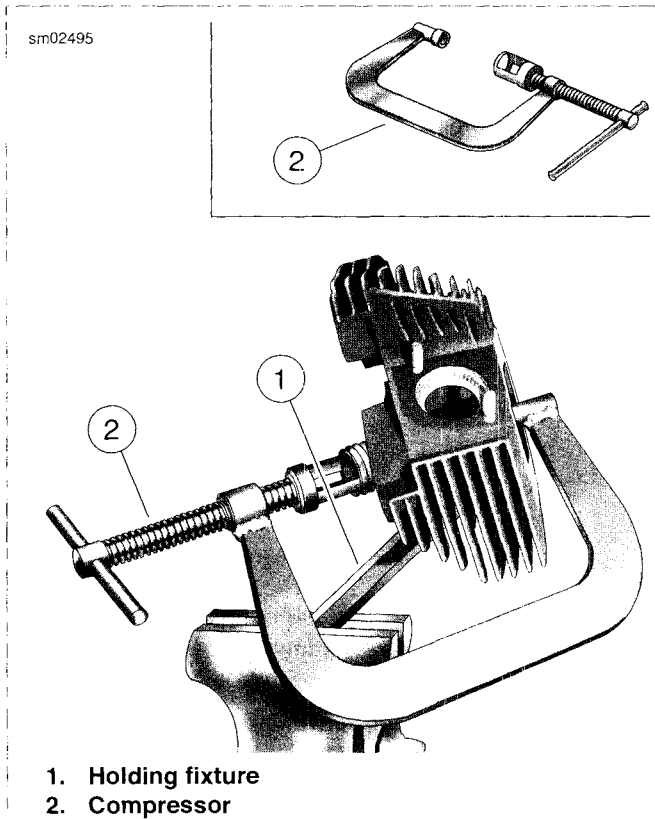
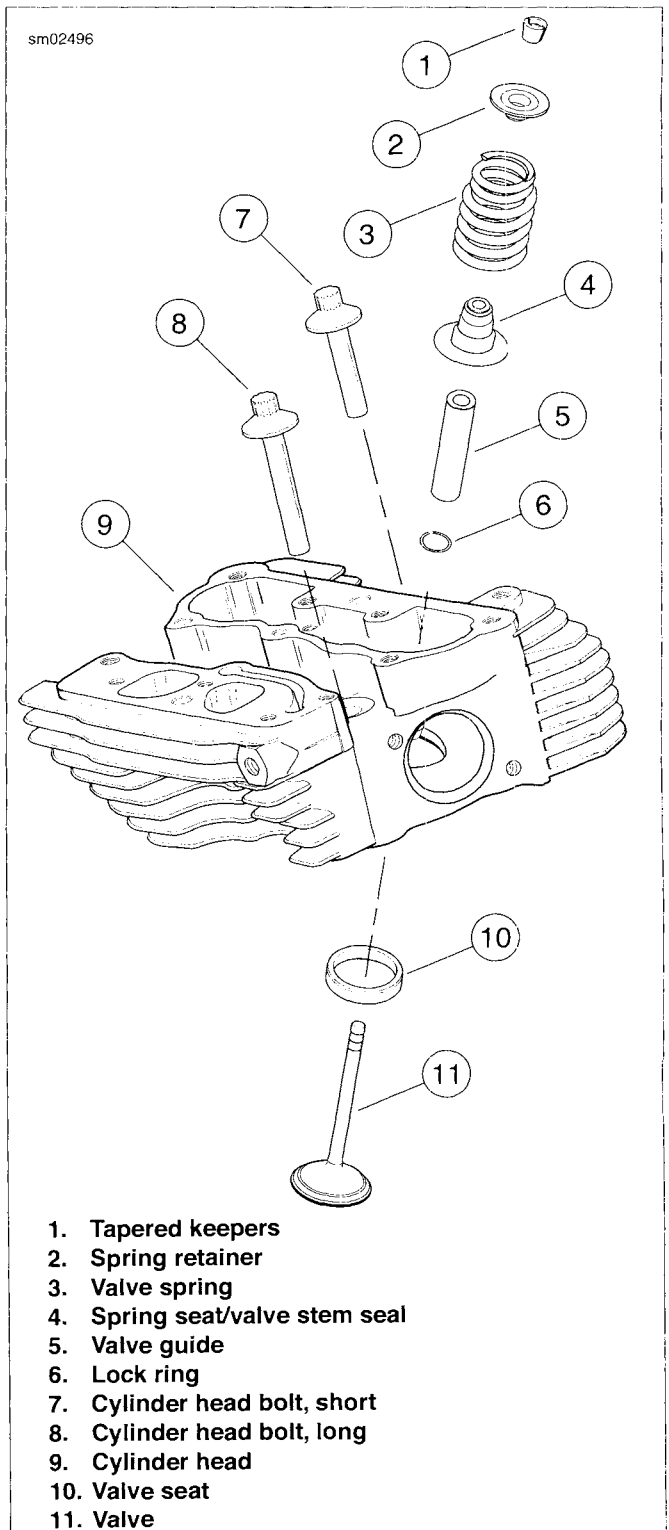

Figure 3-98. Valve Spring Compressor (Part No. HD-34736-B)
Figure 3-99. Cylinder Head Assembly
3. See Figure 3-98. Release valve spring compression.
- a. Place VALVE SPRING COMPRESSOR (Part No. HD-34736-B) (2) over cylinder head. Center blunt end on the valve head. Seat adapter at end of forcing screw on the valve spring retainer.
- c. See Figure 3-99. If spring retainer (2) is not free of tapered keepers (1), give head of tool a sharp tap with a soft mallet. Using magnetic rod or small screwdriver, remove the keepers (1) from the valve stem (11) groove.
4. Remove the spring retainer (2) and valve spring (3).
5. Slide the valve (11) from the valve guide (5).
- See Figure 3-99. Remove old gasket material from cylinder head (9). Gasket material left on sealing surfaces will cause leaks.